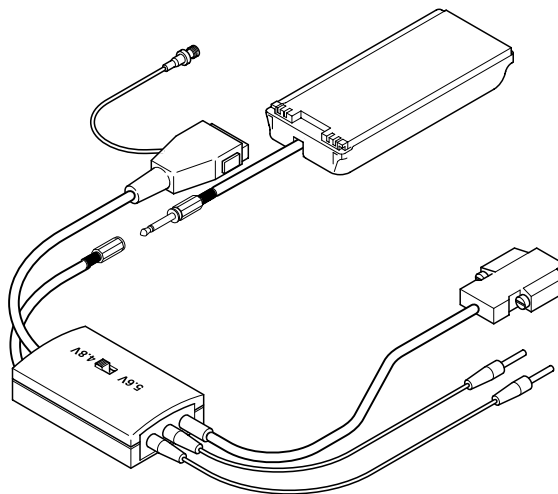

Figure 2: Regulator Unit
3. Regulator Unit part no G5IT001 figure 2